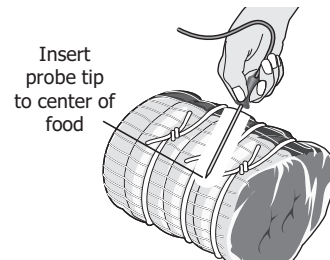

Figure 27: Probe in thickest area of food
- Insert the probe so that the probe tip rests inside the center of the thickest part of meat or food (See Figure 27). For best results, do not allow the probe temperature sensor to contact bone, fat, gristle, or the cookware.